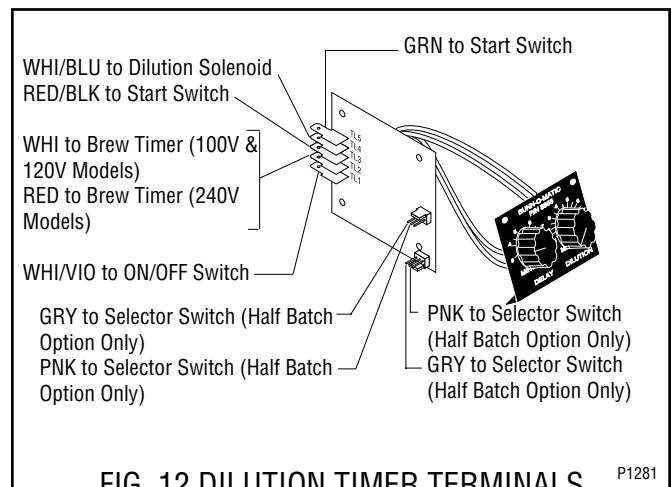

FIG. 12 DILUTION TIMER TERMINALS P1281
5. Refer to Fig. 12 when reconnecting the wires.